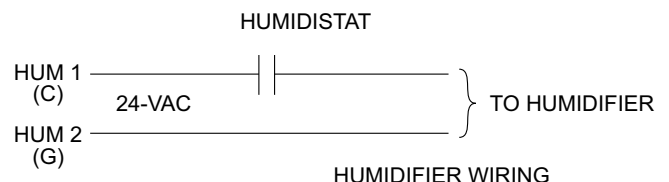
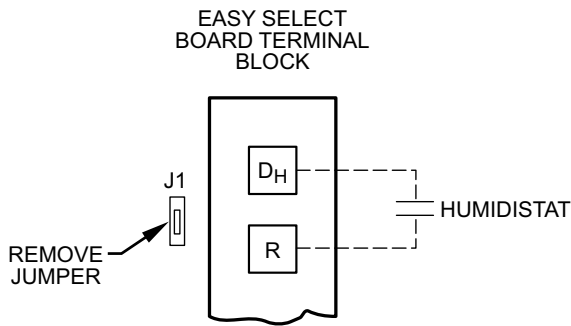

Fig. 23 – Humidifier Wiring
Fig. 24 – Humidistat Wiring for De-Humidify Mode
Easy Select Board terminals HUM1 and HUM2 are provided for direct connection to the low-voltage control of a humidifier through a standard humidistat (see Fig. 23). These terminals are energized with 24VAC when G thermostat signal is present (see Fig. 24). Alternately, the 24VAC signal may be sourced from the W and C terminal block connections when electric heaters are used as primary heating source.
Latent capacities for systems using the Fan Coil are better than average systems. If increased latent capacity is an application requirement, the field wiring terminal block provides connection terminals for use of a standard humidistat. The Fan Coil will detect the humidistat contacts opening on increasing humidity and reduce its airflow to approximately 80% of nominal cooling mode airflow. This reduction will increase the system latent capacity until the humidity falls to a level which causes the humidistat to close its contacts. When the contacts close, the airflow will return to 100% of the selected cooling airflow. To activate this mode, remove Jumper J1 and wire in a standard humidistat (see Fig. 24).
5. Verify low-voltage control signals to motor. The motor receives its control signals through the 12-pin plug (PL-1) on Easy Select Board and 16-pin plug on wiring harness (see Troubleshooting Example). The combinations of pins energized will determine motor speed (see Fig. 24). See Fig. 21 for circuit board, low-voltage screw terminals energized and for voltage present at each pin on 12-pin plug (PL-1). See Fig. 21 for pin number on 16-pin plug which should have voltage when Easy Select Board screw terminals have 24VAC.